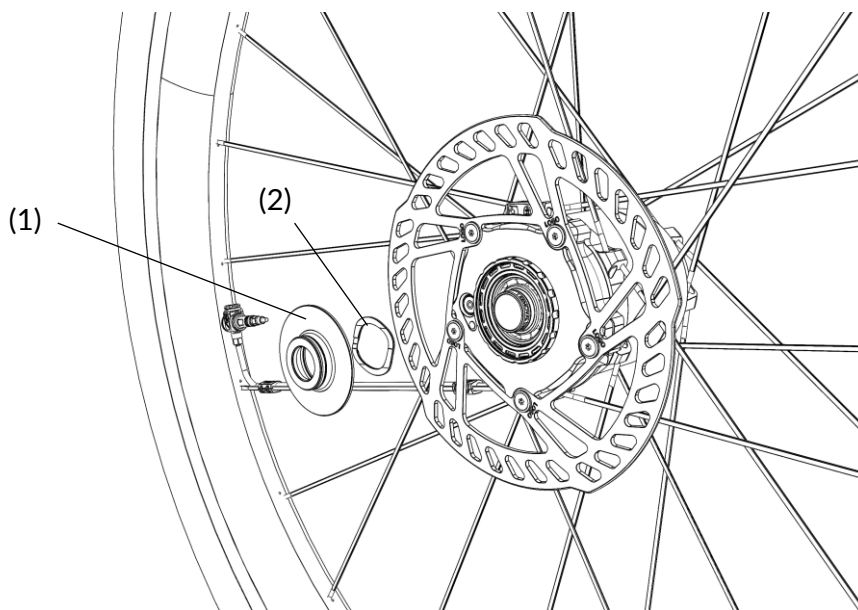

Figure 12: Place endcaps
1. Unmount the left-hand side (non-drive side) endcap (1) from the wheel by pulling them off by hand (or by soft grippers). Also unmount the corrugated spring (2) located behind the endcap. Be careful not to lose the corrugated spring located behind the left endcap (2). See Figure 12.
2. Clean the endcap (1), corrugated spring (2) and remove any dirt from the outer sealing of the bearing.
4. Remount the corrugated spring (2) and push the correct endcap (1) back on. The end cap should be firmly seated on the axle and fully pushed on.